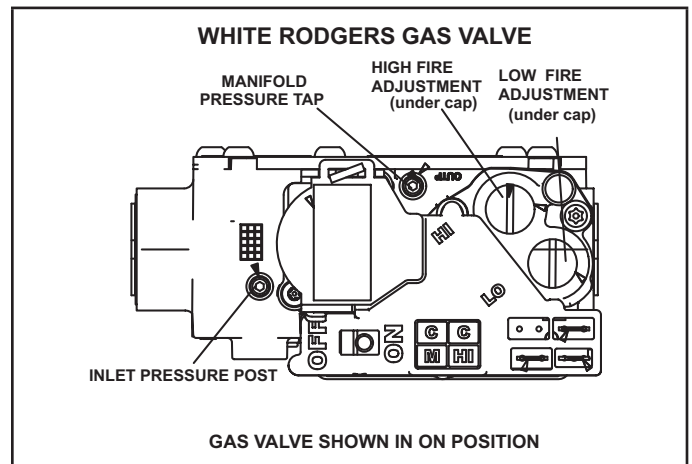

FIGURE 63
Gas Valve Operation (FIGURE 63)
- 6 - Move gas valve switch to **OFF**. See FIGURE 63.
- 8 - Move gas valve switch to **ON**. See FIGURE 63.
An inlet post located on the gas valve provides access to the supply pressure. See FIGURE 63. Back out the 3/32 hex screw one turn, connect a piece of 5/16 tubing and connect to a manometer to measure supply pressure. See TABLE 15 for supply line pressure.
A manifold pressure post located on the gas valve provides access to the manifold pressure. See FIGURE 63. Back out the 3/32 hex screw one turn, connect a piece of 5/16 tubing and connect to a manometer to measure manifold pressure.
- 5 - If necessary, make adjustments. FIGURE 63 shows location of high fire and low fire adjustment screws.